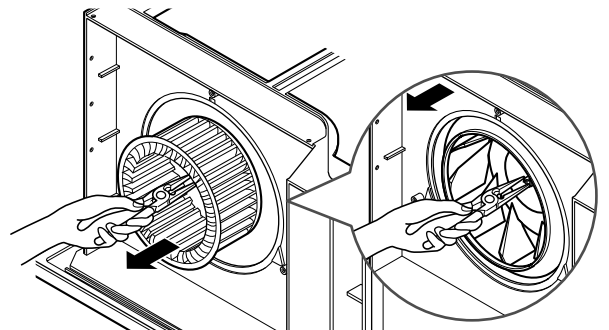

Figure 6
6. Remove the blower with plier or your hand without touching blades. (See Fig. 6)